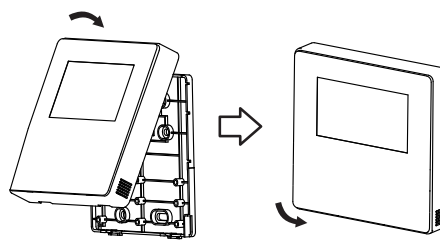

Fig.11
- After adjusting the front cover and then buckle the front cover; avoid clamping the communication switching wire during installation. (Fig.11)